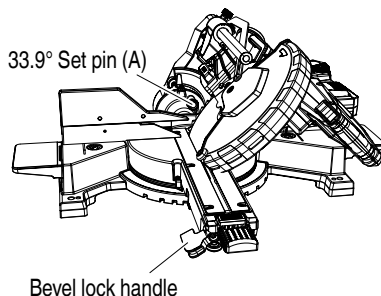

Fig. 33
6. 33.9° Set pin (A) for crown mouldings (Fig. 33)
- (1) Push the bevel set pin (A) in towards the rear of the machine.
- (2) Loosen the bevel locking handle.
- (3) Tilt the cutting head until the set pin (A) stops the bevel angle at 33.9° on the bevel scale.
- (4) Tighten the bevel locking handle to lock the cutting head in position. (see Fig. 33)